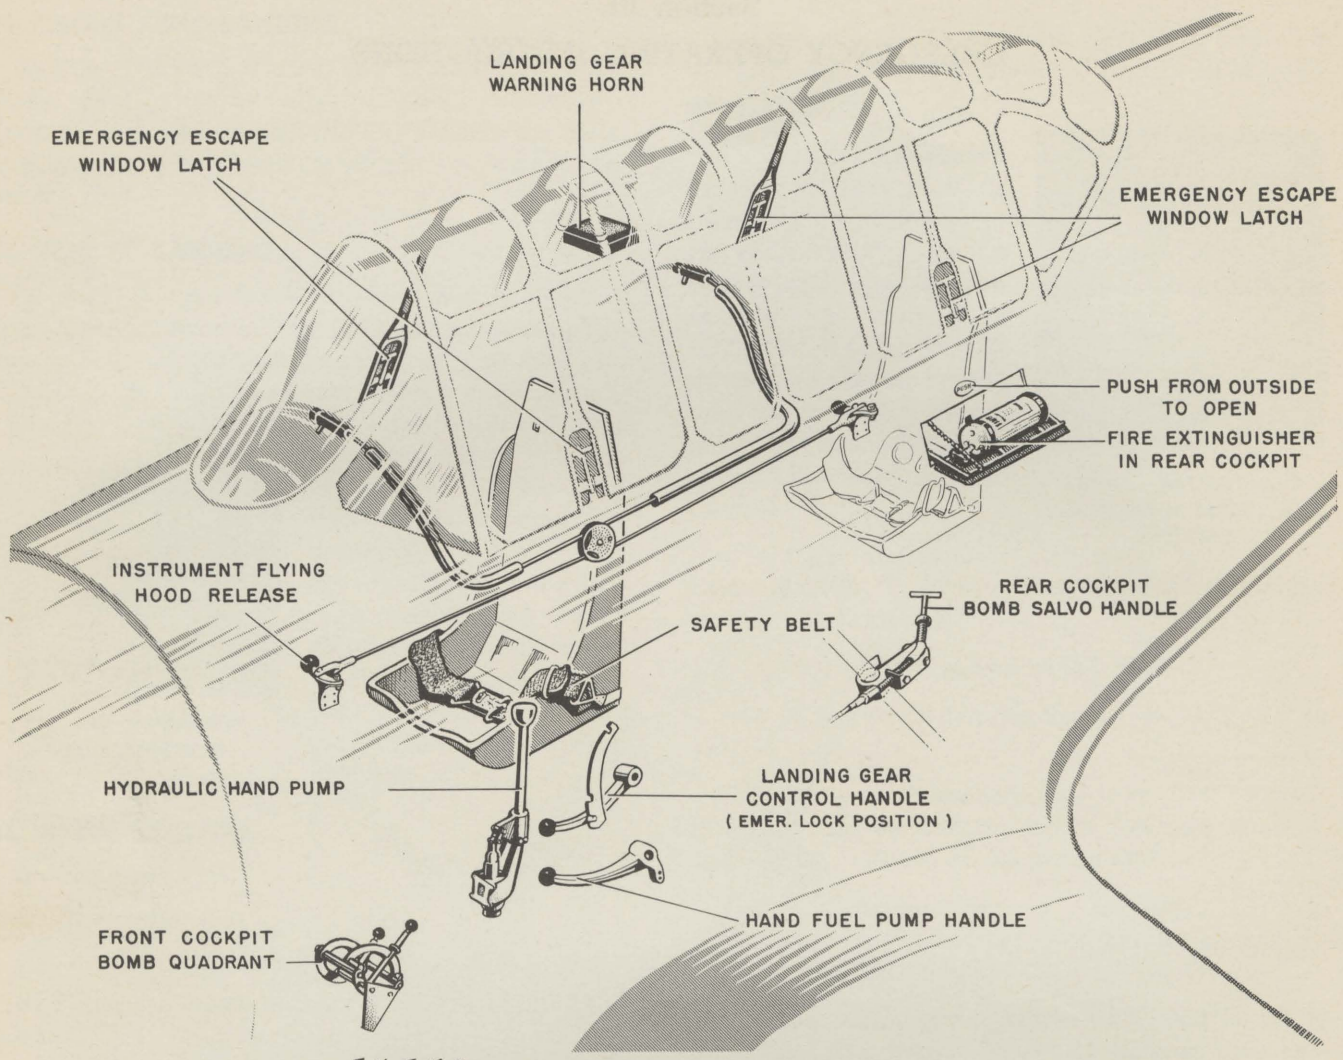

FIG. 1—EMERGENCY EXITS AND EQUIPMENT
1. EMERGENCY EXITS (See figure 1.)
α. 12 VOLT SYSTEM (See figure 1.)—The radio and interphone equipment installed on the 12 volt airplane consists of a radio command set SCR-AL-183, necessary antenna equipment, two-place interphone equipment BC-27 and miscellaneous equipment necessary for the operation of the communication system as a whole. The command set is directly controlled from the front cockpit and remotely controlled from the rear cockpit. All controls are installed on the right side of the cockpits and provision is made for installing the receiver control box in either cockpit to provide receiver control from the cockpit in which the instrument flying hood is installed.